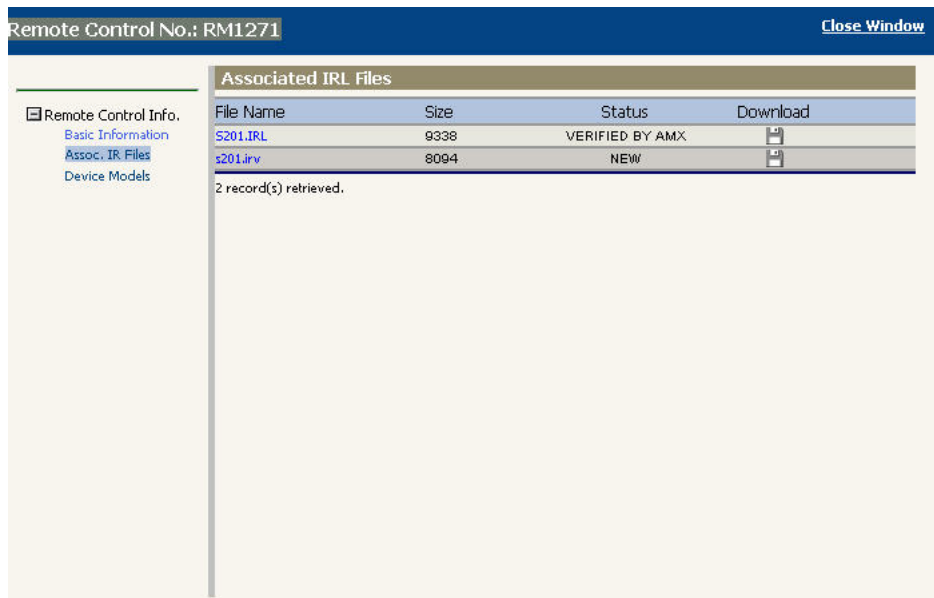

FIG. 72 InConcert Resource Center - Associated IRL Files window
1. In the *Remote Control Information* window, select the **Assoc. IR Files** link (in the left sidebar) to access the *Associated IRL Files* window (FIG. 72):